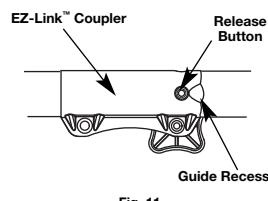

Fig. 11
- Press and hold the release button (Fig. 11).